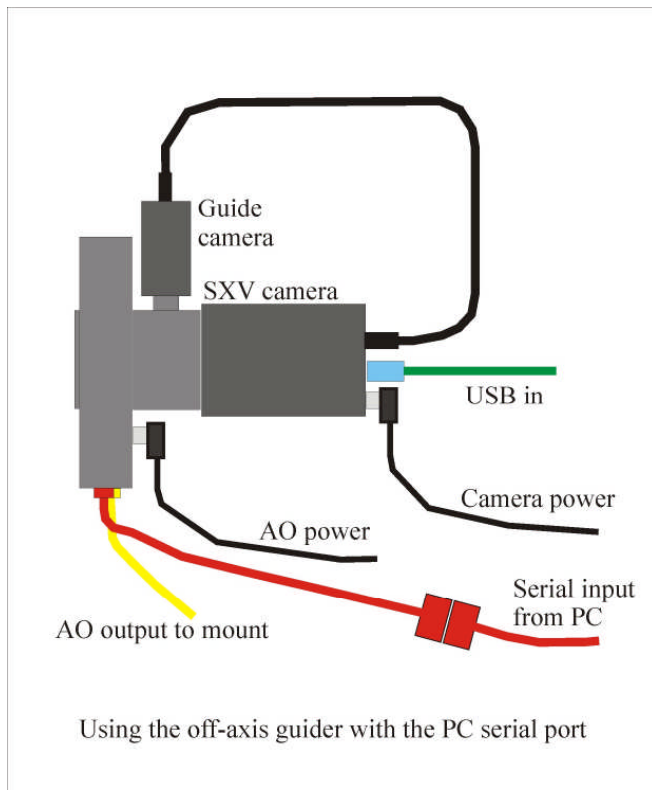

Fig 2
- 4) Connect the serial to RJ11 cable to the appropriate port divider output, or to the RS232 cable from your PC (Fig 2).